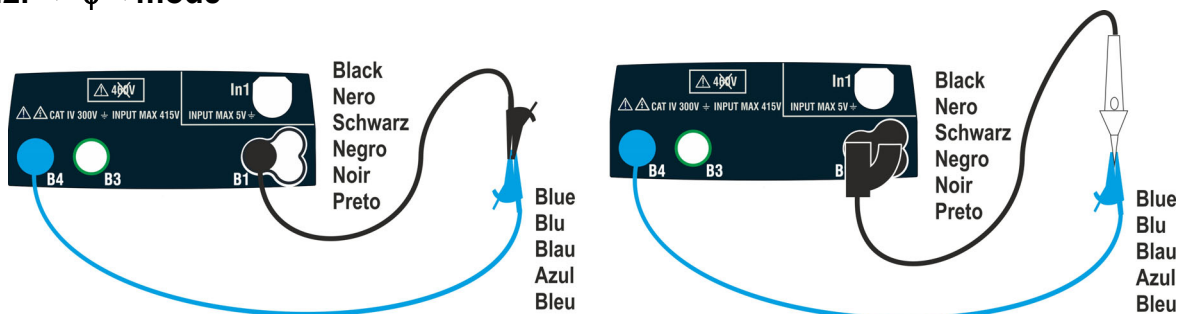

Fig. 12: Compensation of single cables and remote switch probe resistance
- Connect the alligator clips and/or test leads and/or remote switch probe to the conductor to be tested as indicated in Fig. 12